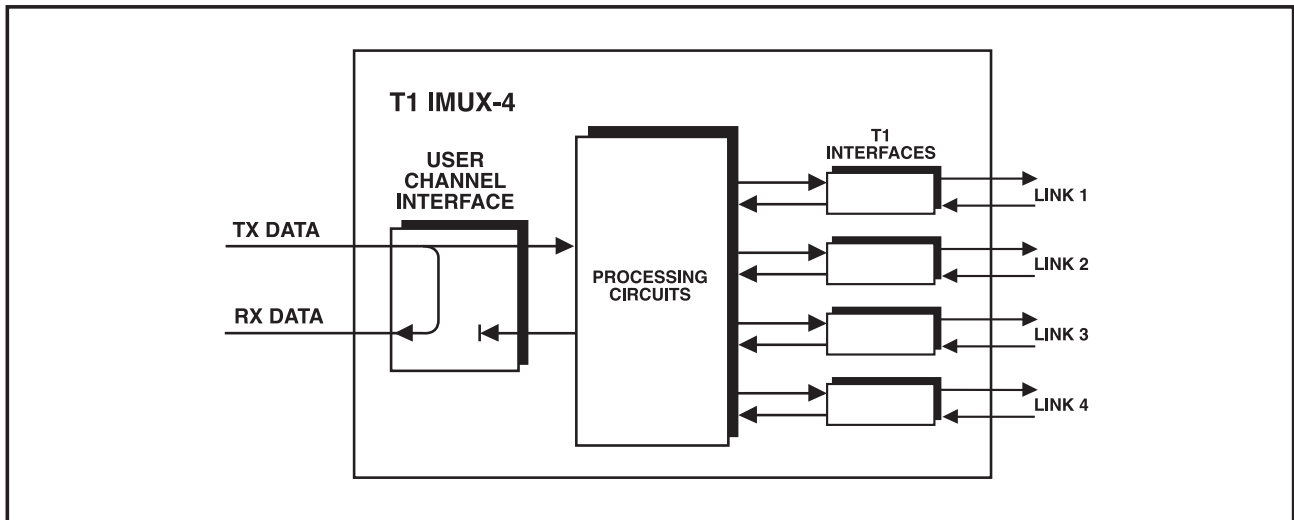

Figure 6-1. LOOP L CH Loopback.
**Figure 6-1** shows a typical local channel loopback.